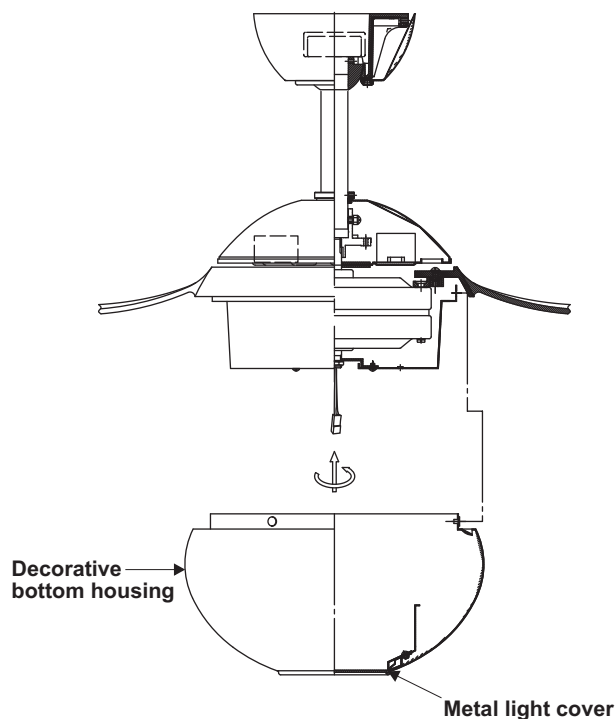

Figure 19
**NOTE:** The additional metal light cover included with your fan is an option to replace the glass diffuser (assembled in the decorative bottom housing) in the event that you prefer not to use the light feature of your fan. (Fig. 19)